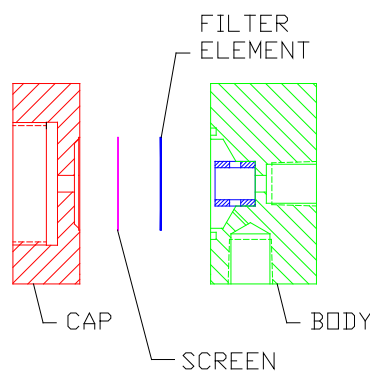

FIGURE 3
3.2.8 Put the separator body back together making sure that the filter element is on the body side of the screen (see Figure 3).